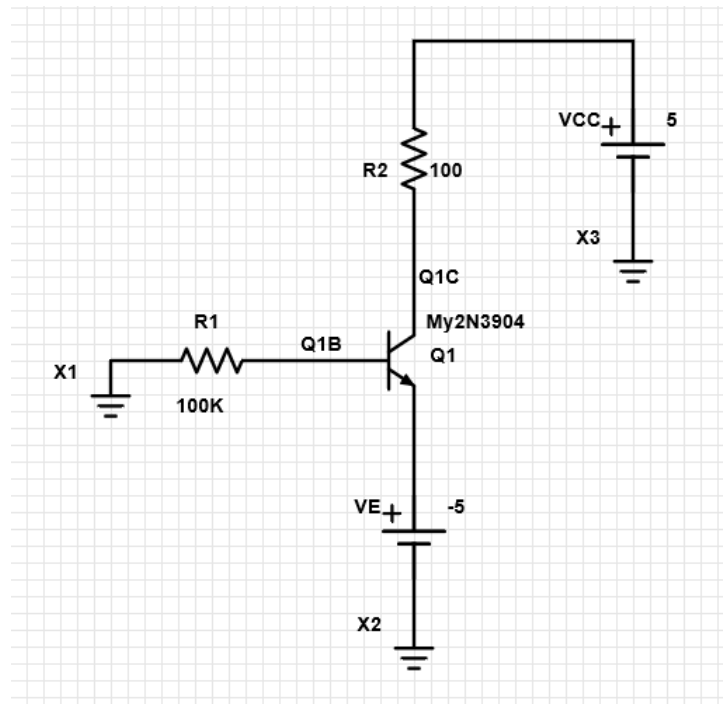

Fig. 1 The schematic diagram for the DC characterization of an NPN-BJT 2N3904
- 1.1 In Avenue to Learn, *Lab 1: Device Characterization and Biasing Circuits*, follow the link for the PartSim and Video 1.1 to Video 1.3 to prepare the PartSim circuit diagram as shown in Fig. 1 to characterize an NPN-BJT 2N3904. Because AD2 only measures voltages, we use R_1 and R_2 in Fig. 1 as the current sensors and obtain $I_B = -V(Q_{1B})/R_1$ and $I_C = [V_{CC} - V(Q_{1C})]/R_2$.